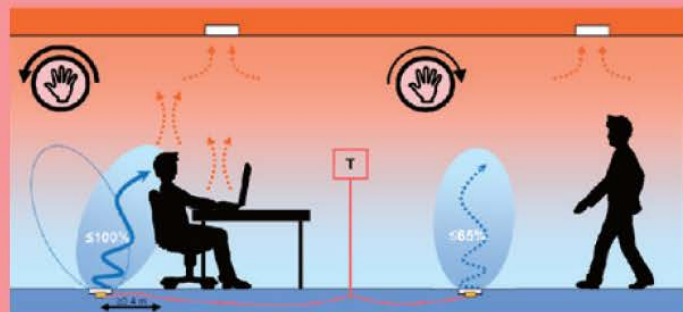

Figure 5
• **Option "V = Vertical"** (figure 5)
- Includes items 5 to 11 above.
- Optional Configuration "V = Vertical" (figure 5):